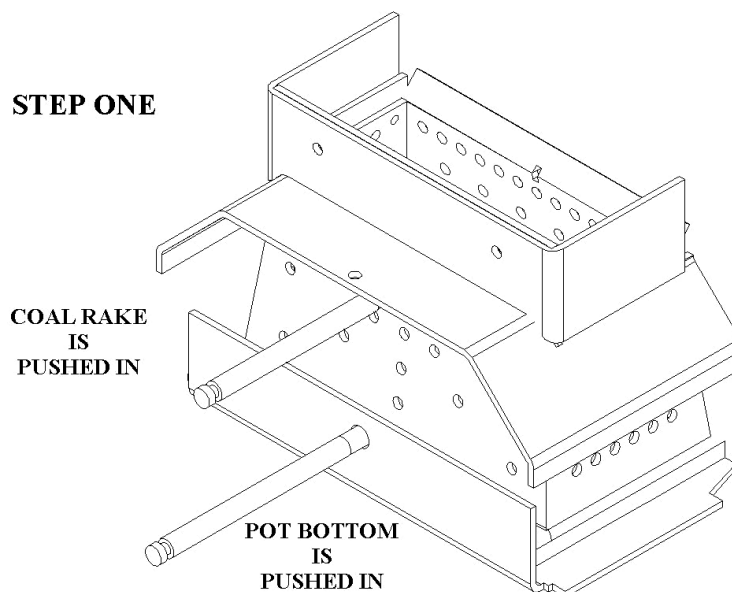

Figure 24
Step 1 - The Coal Rake. (See figure 24) The first step is to open the door and add a $\frac{1}{4}$ cup of the **starter** pellets on top of the coals. Then push the coal rake in and separate the burning coals from the top of the clinker. To push in the Coal rake, use the Rod Handle tool that came with the unit.